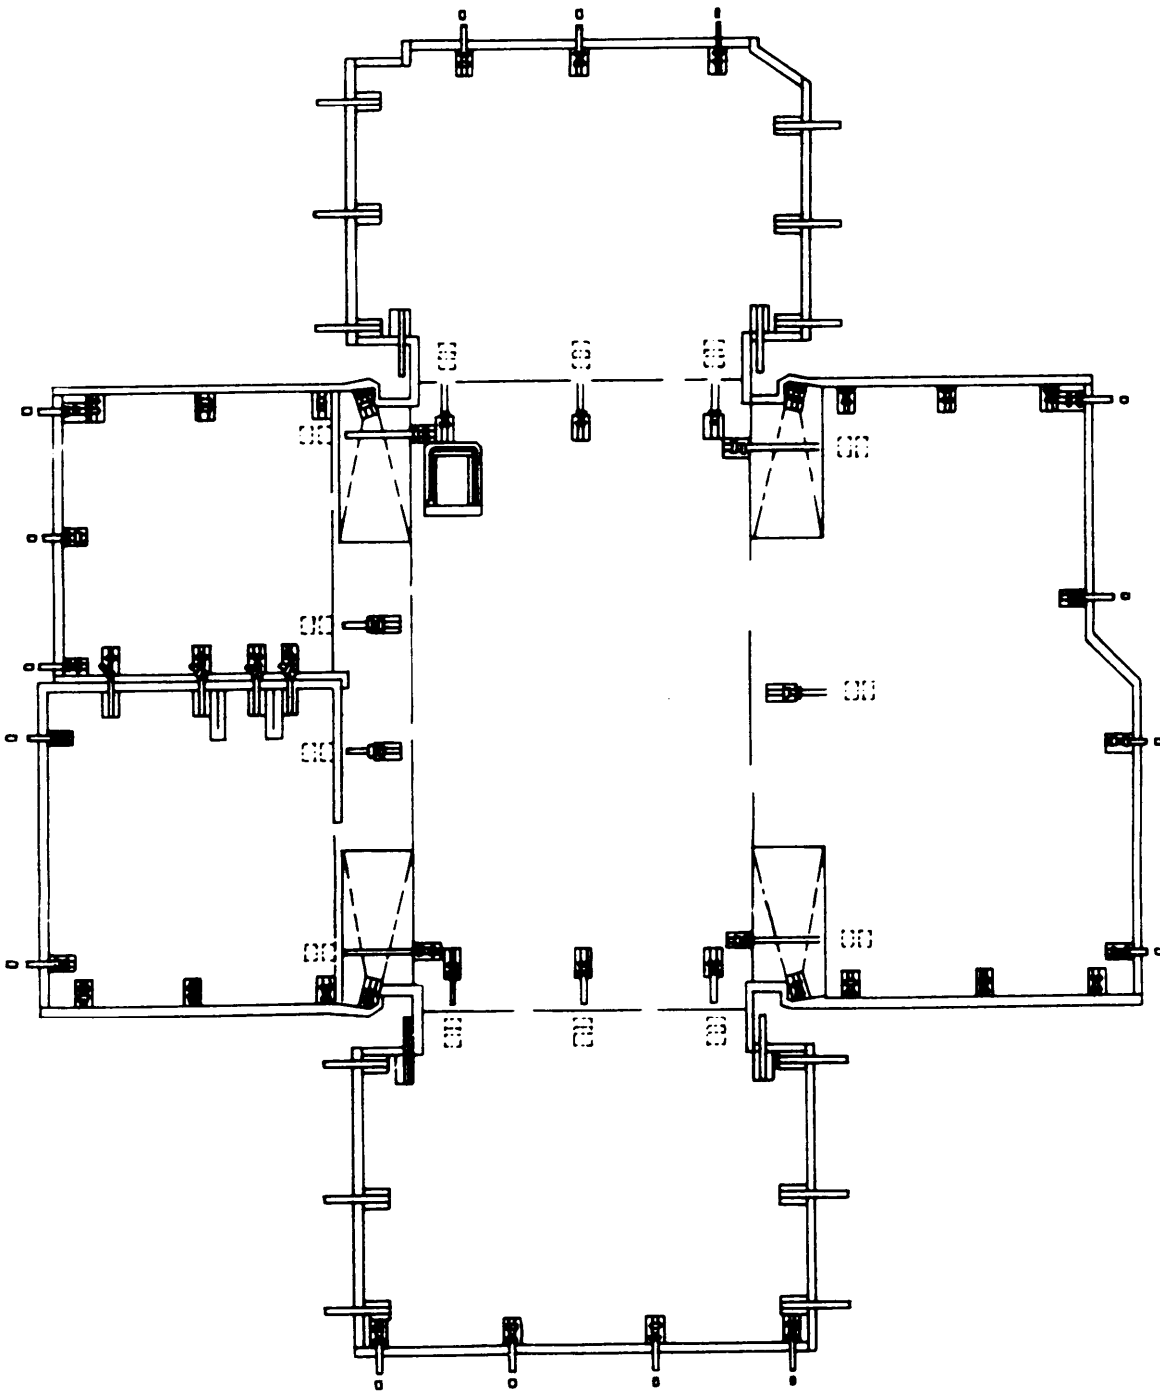

Figure 3-1. ROWPU Frame Cover Repair
b. Inspection. (Figure 3-1)
- (1) Spread the cover flat on a clean surface with the outside up.
- (2) Check that the rim strip around the edge of the cover is not coming unstitched.
- (3) Check webbing straps for end clips.
- (4) Check spring buckles.
- (5) Check that all straps are securely sewn to cover. Mark loose stitching for repair.
- (6) Check cover for tears. Mark for repair.
- (7) Turn cover over. Check buckles on underside for serviceability.